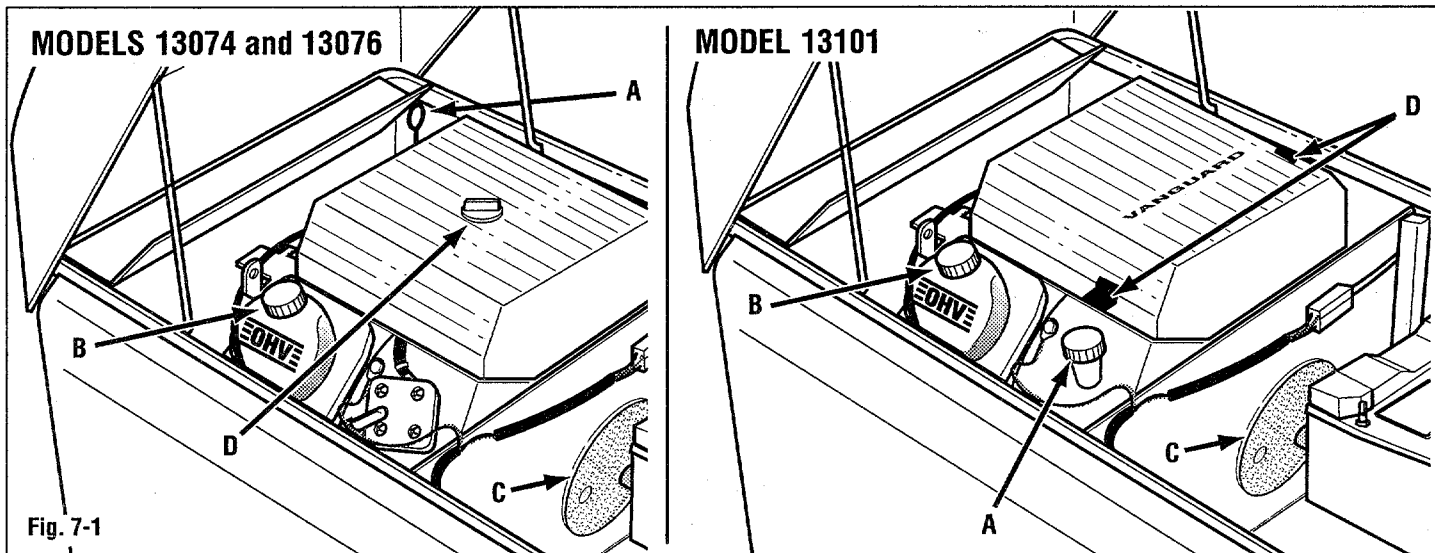

Fig. 7-1
Refer to your specific model in Figure 7-1.
1. Remove dipstick (A, Fig. 7-1).
3. Remove dipstick and check oil level. The oil level is indicated by marks on the dipstick. Keep level between the ("F" Full) and ("L" Add) marks. If level is low, fill engine crankcase through fill opening (B, Fig. 7-1).
5. Fill engine crankcase with oil at fill opening (B, Fig. 7-1). See engine manual for the correct oil type. Fill to level indicated on dipstick, between the ("F" Full) and ("L" Add) marks. **NEVER OVERFILL ENGINE CRANKCASE.** Capacity w/ filter – See engine manual
STOP ENGINE BEFORE CLEANING AIR SCREEN! Check engine air intake screen (C, Fig. 7-1) for debris and clean regularly.
1. Clean dirt from around the air cleaner cover. Unscrew knob or unlatch clips (D, Fig. 7-1) and remove cover.
8. Place cleaned (or new) paper element (G) on engine. Secure with wing nut (F). Install cleaned, oiled foam precleaner (E) over paper element.
9. Install cover and screw in knob or latch clips (D, Fig. 7-1) down.